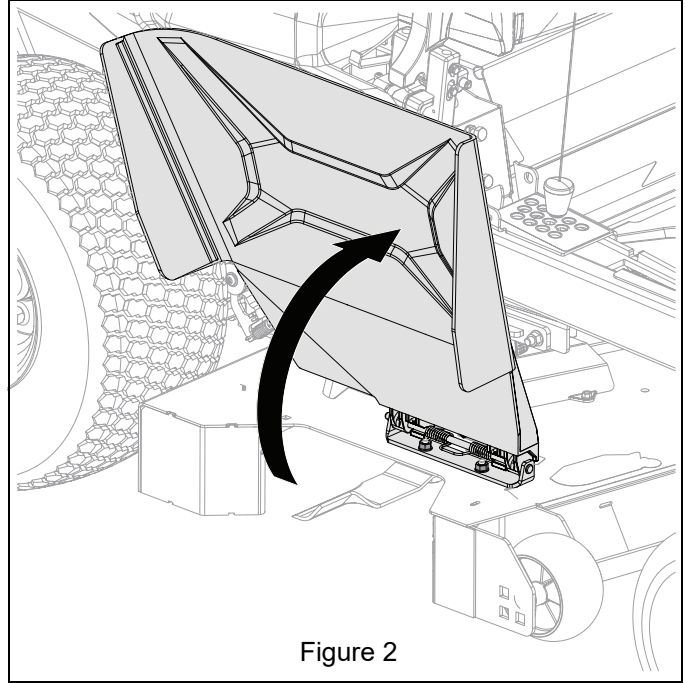

Figure 2
3. Rotate discharge chute up to gain access to mounting hardware. See Figure 2.